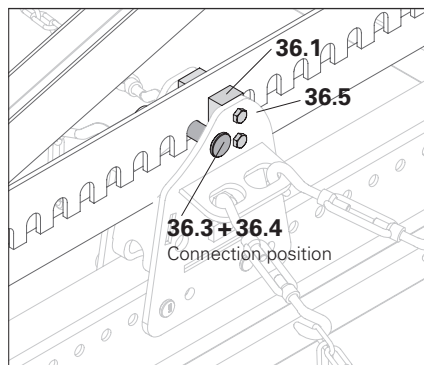

Fig. A10.03b
2. Secure blocks (36.1) with 2 bolts M12 x 30 respectively – 2x. (Fig. A10.03b + A10.03c)
→ The bearer and girder package are now securely connected. (Fig. A10.03b)